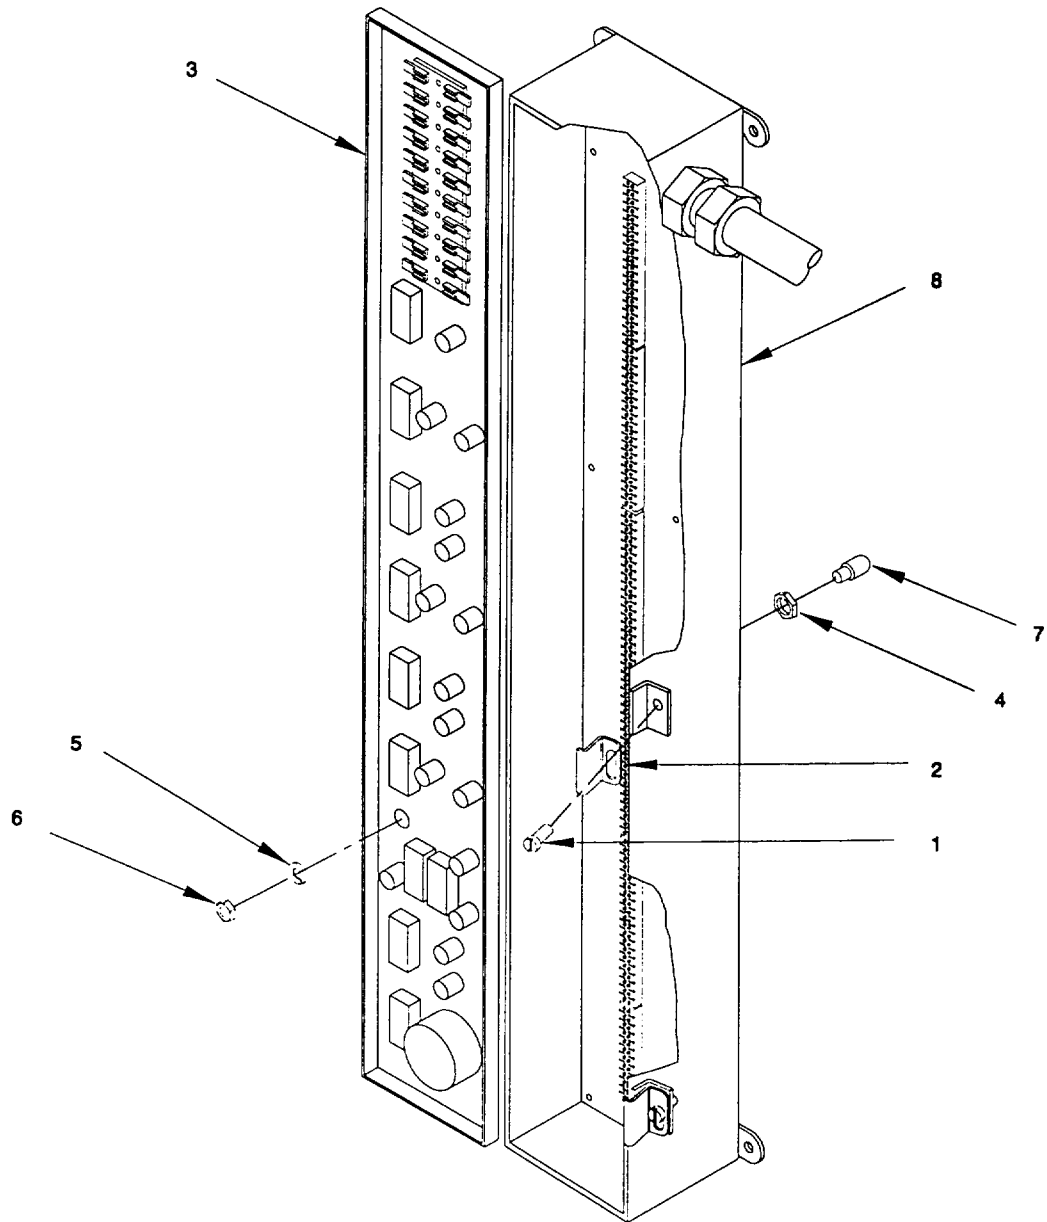

Figure 2-159. Indicator Light, Mast Enclosure, Remove/Install.
a. Remove. (figure 2-159)
- (1) Remove three screws (1) and three clamps (2) securing door (3) to mast enclosure (9).
- (2) Open enclosure door (3) to access interior of mast enclosure (8).
- (3) Disconnect and tag all electrical connections to the indicator light (7). Refer to Appendix G for wiring list and terminal layout.
- (4) Remove hex nut (4), lock washer (5) and knurled flange nut (6) to free indicator light (7) from mast enclosure door (3).
b. Install. (figure 2-159)
- (1) Position indicator light (7) in enclosure door (3) and secure with knurled flange nut (6), lock washer (5), and hex nut (4).
- (2) Connect all electrical wiring to indicator light (7). Refer to Appendix G. Use tie wraps to secure any loose wires.
- (3) Close mast enclosure door (3) and secure with three clamps (2) and three screws (1).